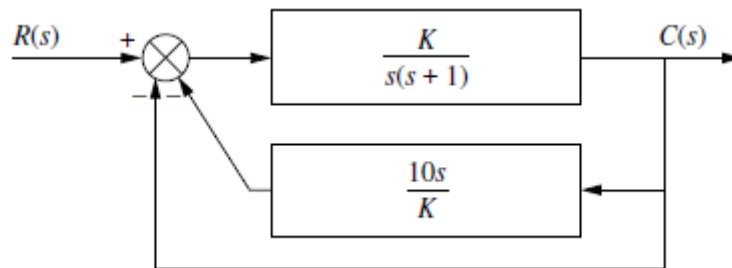

Fig. 1
- 2) For the system shown in Fig. 1, design the value of K so that there is 1% error in the steady state for an input  $100tu(t)$ .